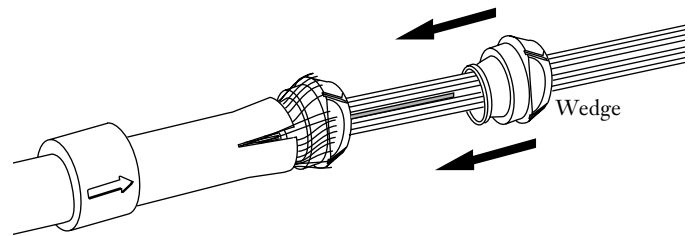

Figure 8
4.15 Slide the wedge portion of the aramid yarn crimp over the fibers. Slide the wedge under the the aramid yarn and cable sheath as shown in Figure 8.